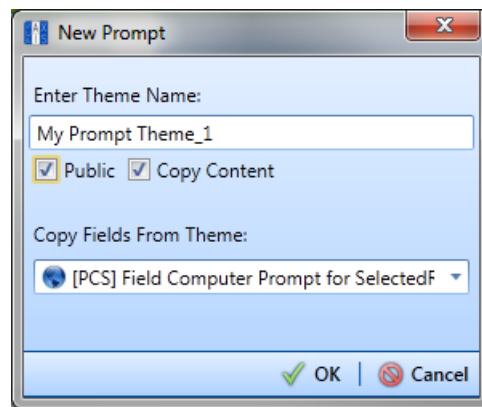

Figure 13-29. New Prompt
- 4 Click the **+** **Add** button to open the *New Prompt* dialog box (Figure 13-29).
- 4 Click the  **Add** button to open the *New Prompt* dialog box (Figure 13-29, page 582).